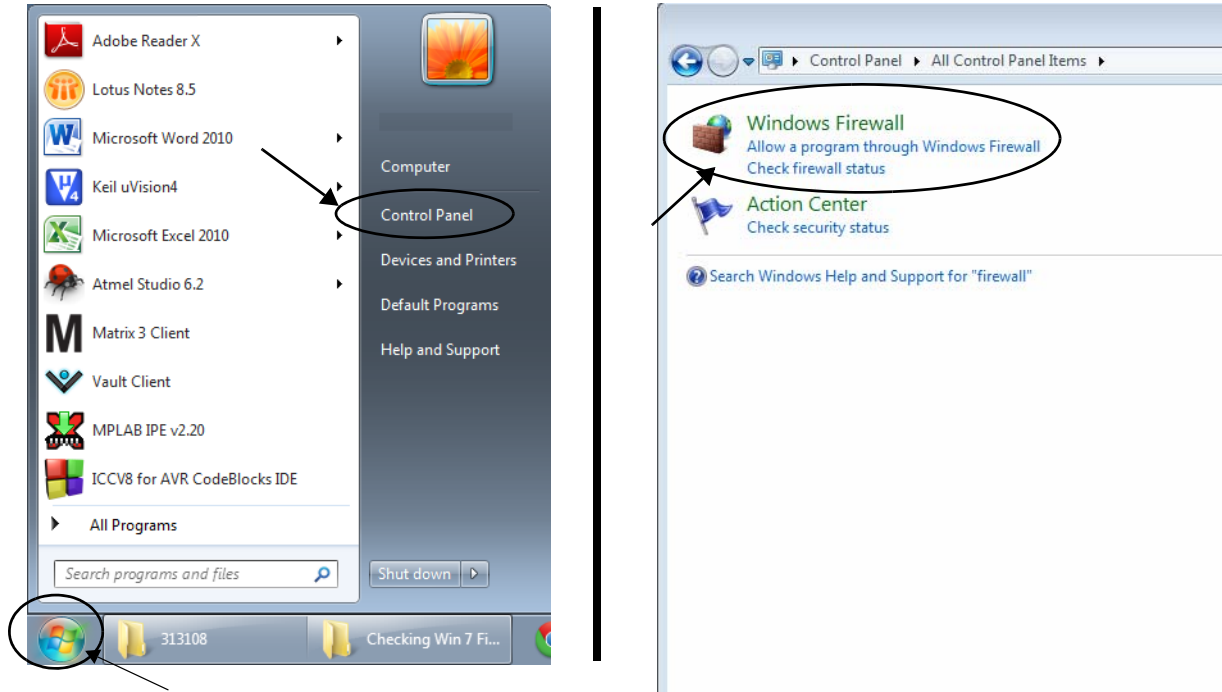

FIG. 35
1. Click on Start button. Then click the control panel. In the search box type Firewall. Then click on the Windows Firewall (FIG. 35).